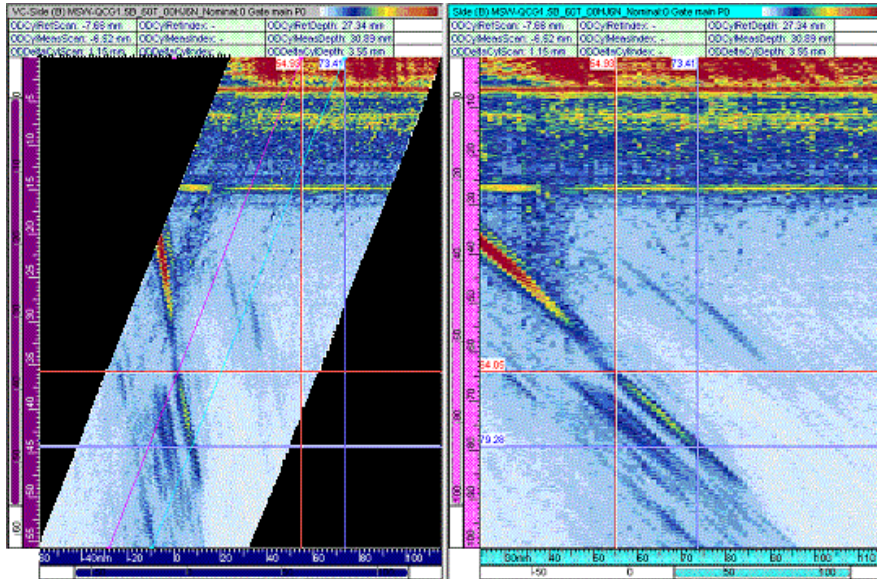

Figure 7-66 Cylindrical correction: example 1
- The **OD Cyl. Ref. Scan** and **OD Cyl. Ref. Depth** information fields provide the position (scan and depth axes), in the user-defined cylindrical geometry, of the point determined by the intersection of the horizontal reference (red) cursor and the angled reference (pink) cursor, in the VC-Side (B) view, or by the horizontal and the vertical reference (red) cursors in the Side (B) view.
- The information fields **OD Cyl. Meas. Scan** and **OD Cyl. Meas. Depth** provide the position (scan and depth axes) in the user-defined cylindrical geometry, of the point determined by the intersection of the horizontal measurement (blue) cursor and the angled measurement (cyan) cursor, in the VC-Side (B) view, or by the horizontal and the vertical measurement (blue) cursors in the Side (B) view.
- The provided position information in the cylindrical geometry takes into account multiple rebounds of the ultrasonic beam from both OD and ID, considering the wall thickness entered by the operator in the **Part Definition** dialog box (see Figure 7-66 on page 407).